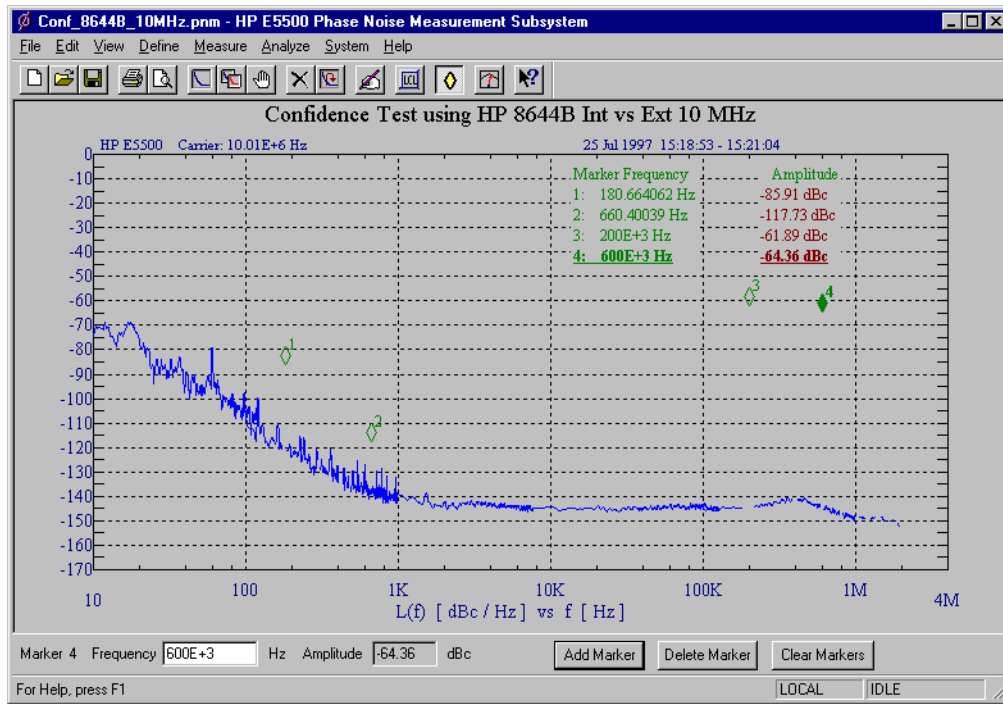

Figure 5-38 Graph Displayed without Spurs
- 3 The Graph will be displayed without spurs. See Figure 5-38. To re-display the spurs, check **Spurs** in the **Display Preferences** dialog box.